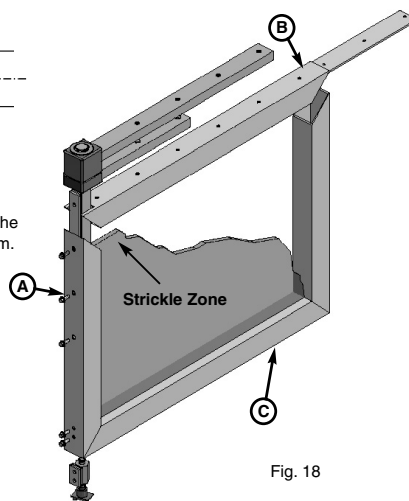

Fig. 18
- Insert the steel plate into the correct seat of the upper crosspiece **B** (Fig. 18).